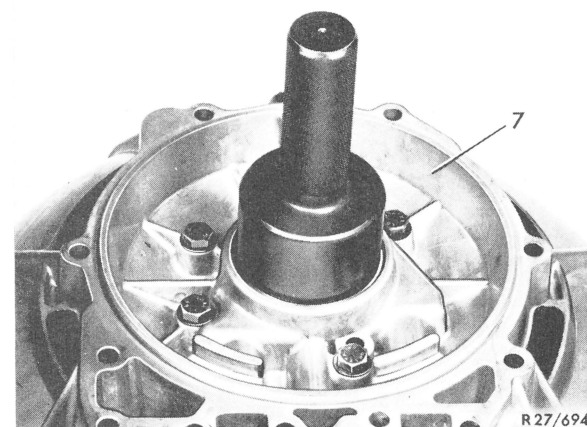

Fig. 10
13 Press ball bearing (3) into transmission cover (1) with suitable mandrel. Use punch of remover 115 589 00 35 00 for this purpose (Fig. 10).